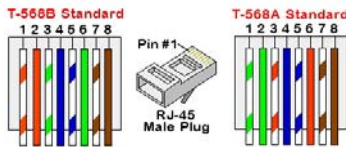

Figure 19: Standard cable wiring
- c. Insert the eight wires into an RJ45 connector (see *Figure 19*).